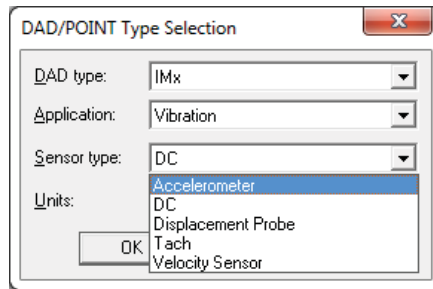

Fig. 3. Select the sensor type.
- 3 Select the **Sensor type** according to your needs. For this example, we will use vibration (→ **fig. 3**).